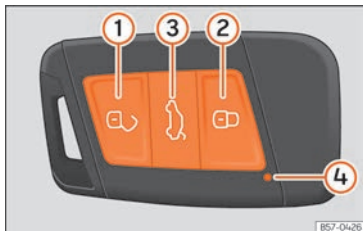

Fig. 46 Vehicle key
When a button is pressed briefly on the vehicle key, the control lamp ④ »» Fig. 46 flashes once briefly, but if pressed for a long period of time, it will flash several times, for example, in the convenience opening.